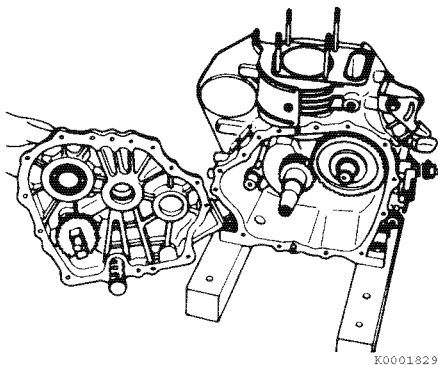

Figure 6-41
3. Remove the crankcase cover **Figure 6-41** and oil pump assembly.